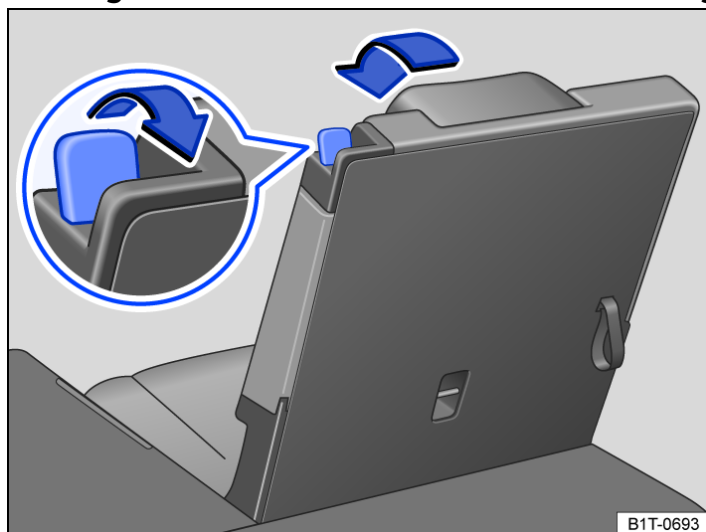

Fig. 1 Third row of seats: folding the rear seat into the loading position.
- Pull the release lever → Fig. 1 fully to the rear to release the rear seat backrest.